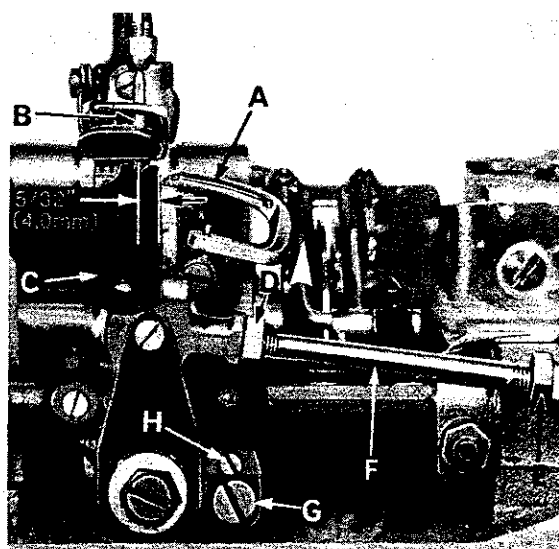
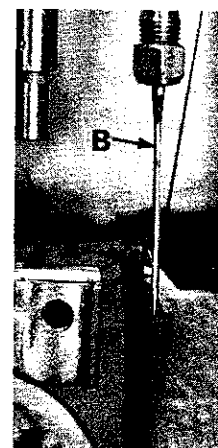

Fig. 6
Fig. 7
Insert a new needle, type and size specified. Looper gauge is $\frac{5}{32}$ inch (4.0mm) which is the distance from point of looper (A, Fig. 6) to centerline of needle (B) when looper is at extreme right end of its travel. Looper gauge No. 21225-5/32 (C) is available for this setting. Adjustment can be made by loosening nut (D), (it has a left hand thread) and nut (E); turn connecting rod (F) as required to attain specified dimension. Hold connecting rod in position and tighten nut (E); then nut (D). NOTE: Be sure that the left ball joint is in a vertical position and does not bind after adjustment.
While turning handwheel in operating direction and the looper (A, Fig. 7) moves to the left, its point should be set to brush but not pick at rear of needle (B). Adjustment can be made by loosening screw (G, Fig. 6), turn stop screw (H) clockwise to move looper towards the rear, counterclockwise acts the reverse. It is suggested to hold looper towards the front while making this adjustment. Tighten screw (G) after adjustment has been made and recheck movement of looper.